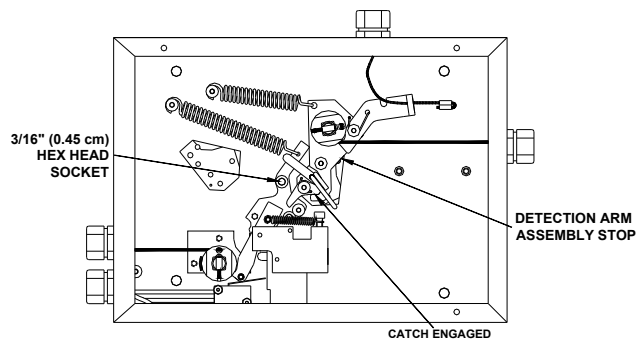

Figure B-12.
1. Reset the Fusible Link Line by rotating the Detection Arm Assembly until all the slack has been removed from the fusible link line and the Detection Arm hits the stop and the Catch is engaged. See **Figure B-12**.